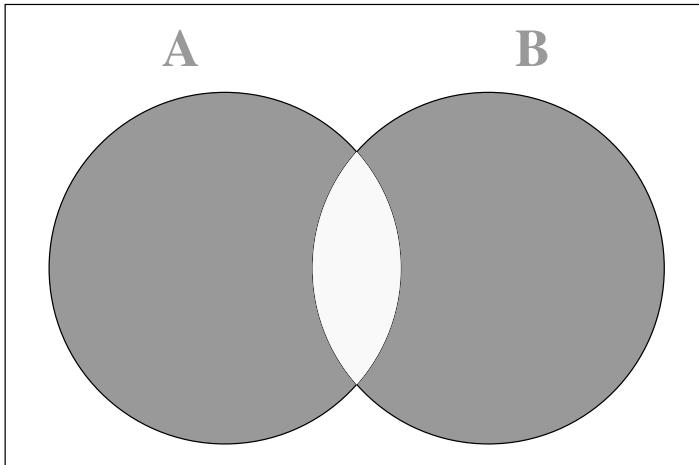

Fig. 3.27: Venn Diagram
46. The Boolean expression for the shaded regions as shown in Fig. 3.27 is _____.